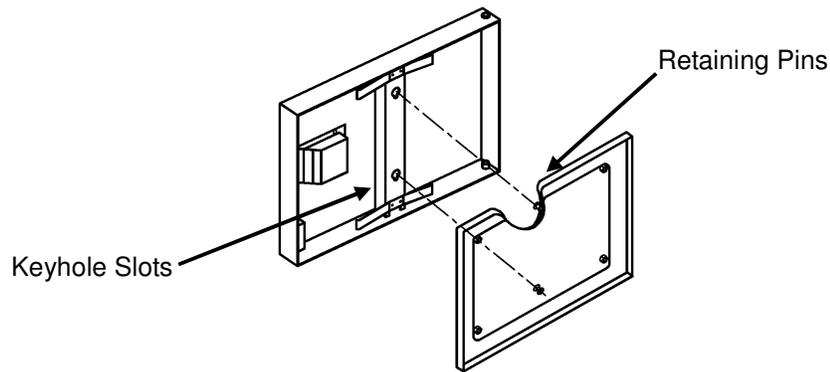

Figure 5-1
- a. Remove the door gasket assembly (see Figure 5-1) by holding the gasket assembly at the sides and lifting up and away from the door.